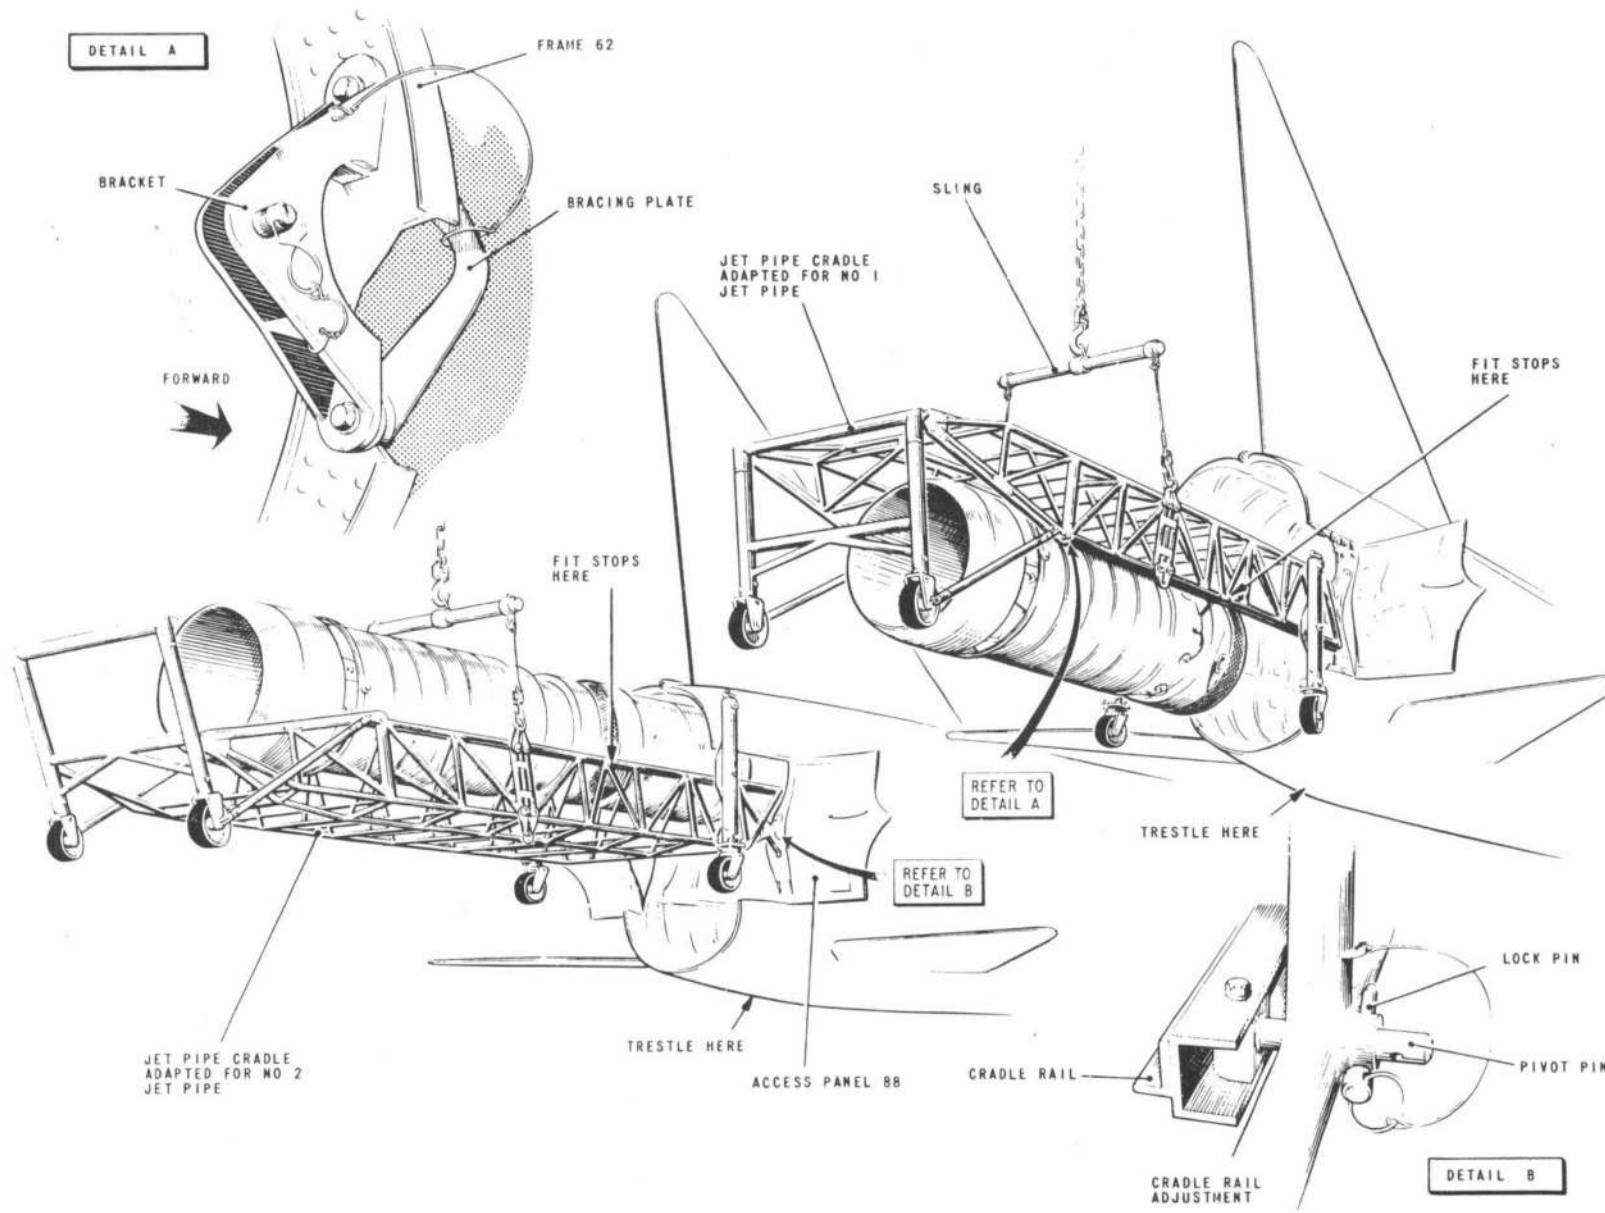

FIG. 21. JET PIPE -REMOVAL AND ASSEMBLY (2)
(1) Ensure that the necessary precautions (para.31) are being observed.
(2) Adapt the jet pipe cradle to receive a No.1 jet pipe (fig.22), set the cradle rails to the narrow position (fig.21, detail B) and, with the intermediate pipe on a transportation stand, draw the cradle over the aft end of the pipe. Fit the forward intermediate pipe stops and set the pipe rollers to their lowest position.
(3) Lift the cradle and pipe to the fuselage, and secure the cradle to the attachment brackets on frame 62 (fig.21, detail A). Align the cradle rails with the fuselage rails.
(4) Remove the stops and roll the pipe
(19) Set the cradle to the wide position, i.e. cradle rail adjustment quick release pins through the inner holes (fig. 21, detail B).
(20) Roll the jet pipe on to the cradle
(fig. 21, detail B). Lift the reheat pipe on to the rear section and the intermediate pipe on to the front ensuring that the coupling device is securely locked. Adjust the forward rollers to their lowest position, and fit the reheat pipe stops to the rails. Attach the sling to the cradle.